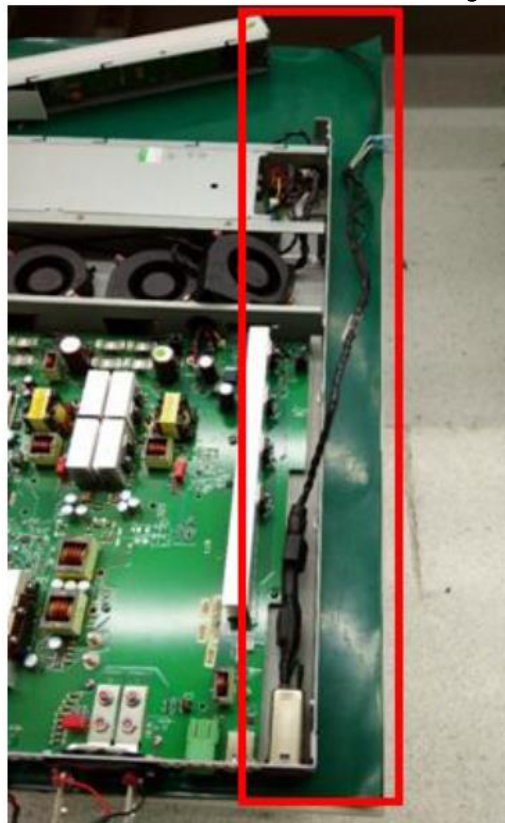

Figure 9
9. Remove AC line cable from middle chassis hole as shown in Figure 9.